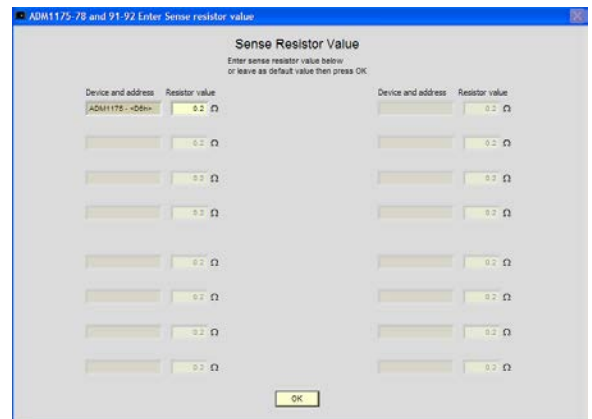

Figure 17. Sense Resistor Value Entry
3. Click **OK**. The **Enter Sense resistor value** window appears (see Figure 17).